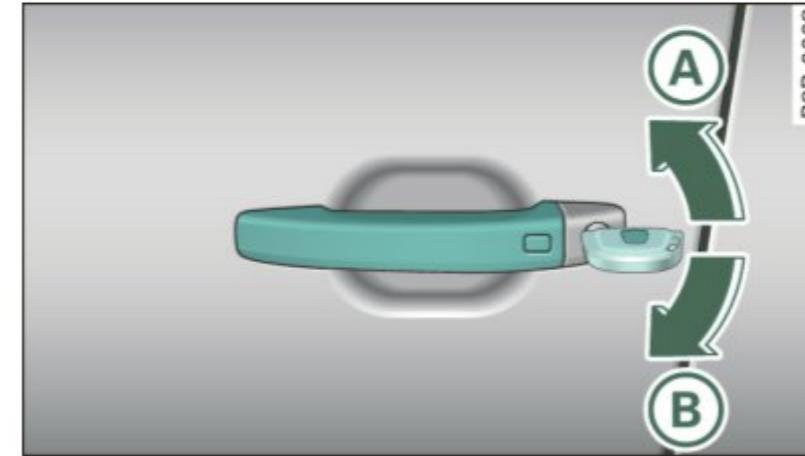

Fig. 47 Key turns for opening and closing
- Turn the key to position ⇒ fig. 47 (A) until all the windows have reached the desired position and the Panoramic sliding sunroof* is tilted.